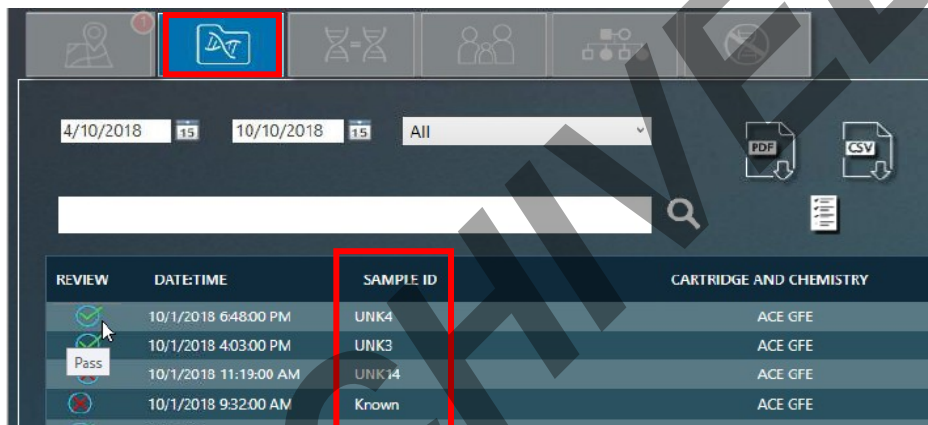

Figure 1. Selecting the DNA profile library from the RapidLINK™ software to view a sample in GeneMarker™ HID
1. The run data may be viewed directly from the RapidLINK™ software via two methods. From the main screen, select the DNA profile library icon (Figure 1). A list of all of the runs performed by the instrument(s) will be displayed. Double click the Sample ID to open GeneMarker™ HID. After selection, the runs are processed automatically by the GeneMarker™ HID Software to be viewed and analyzed.